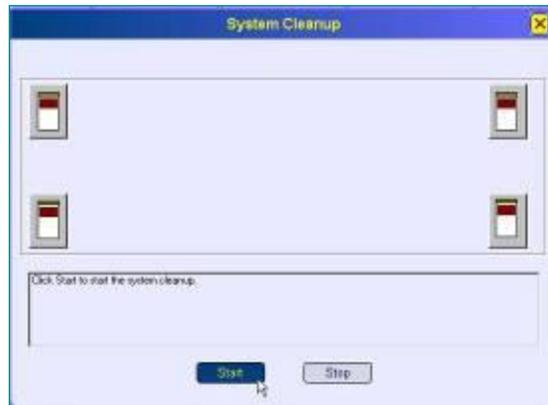

Figure 75a: System Clean Up
- c. The <System Cleanup> window will appear. Click <Start>(Figure 75a)